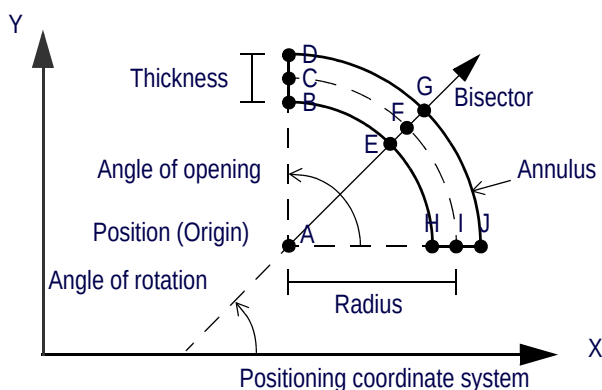

Figure 284 Arc Caliper — Adjusting the Sector
- Move the Sector by dragging its border or its origin located at the intersection of its two bounding radii shown with dotted lines. Handle *A* in Figure 284.
- Adjust the Sector's radius by dragging its center located at the intersection between the bisector and the median annulus. Handle *F* in Figure 284.
- Set the Sector's thickness by dragging any of its four resizing handles located at intersections between its two bounding radii and annuli or by dragging the two resizing handles located at the intersections of the bisector and the two bounding annuli. Handles *B*, *D*, *E*, *G*, *H*, and *J* in Figure 284.
- Set the Sector's opening by dragging any of its four resizing handles located at intersections between its two bounding radii and annuli. Handles *B*, *D*, *H*, and *J* in Figure 284.
- Rotate the Sector by dragging the two intersections between the median annulus and the two bounding radii. Handles *C*, and *I* in Figure 284.